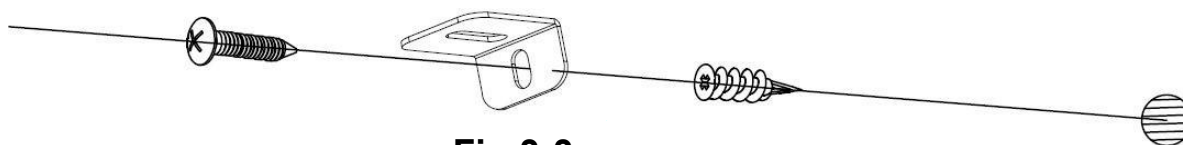

Fig 3-3
C. Install the plastic anchor (C) into the drywall, then install the screw (B) (supplied) into the hole of the L-bracket into the wall anchor to secure the fireplace from coming off the hooks. (Fig 3-3).